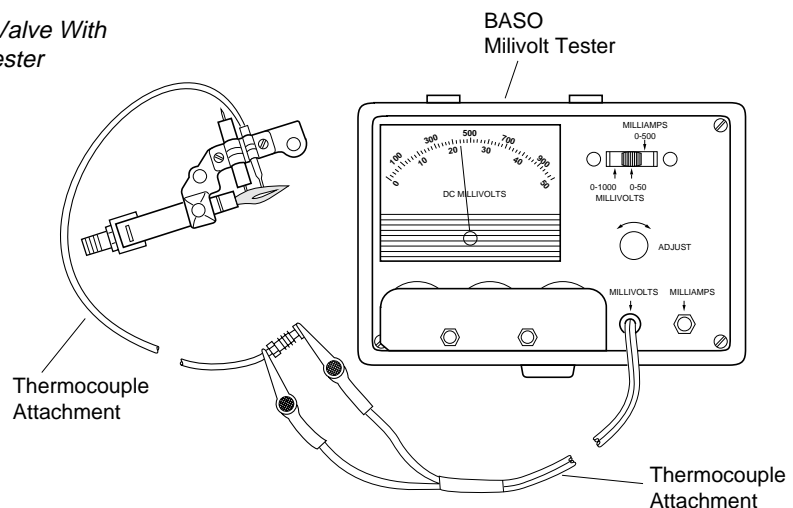

Figure 12. Testing Thermocouple With BASO Milivolt Tester
7. Connect the thermocouple attachment to the thermocouple as shown in Figure 12. Be sure the red clip is attached to the outer (copper) thermocouple sheathing. Set BASO to 0-500 Millivolts.